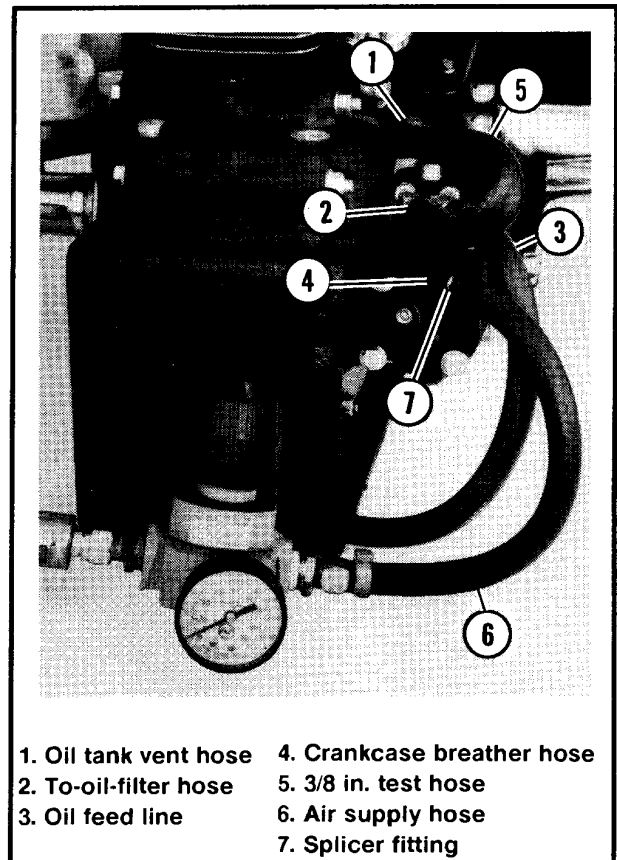

Figure 3. Test Set-up
6. See Figure 3. Remove the oil tank vent hose (1) at right crankcase and the to-oil-filter hose (2) at the oil pump. **Do not disconnect oil feed line (3).**
7. Disconnect the crankcase breather hose (4) at the metal tube that is connected to the air cleaner backplate.
8. With a short length of 3/8 I.D. hose (5), connect the oil tank vent fitting to the to-oil-filter fitting on the oil pump. (This connection seals the tank vent.)
9. See Figure 3. Connect the regulated air supply (10-15 psi) hose (6) to the crankcase breather hose (4) using a 3/8 hose nipple (7) (splicer fitting).